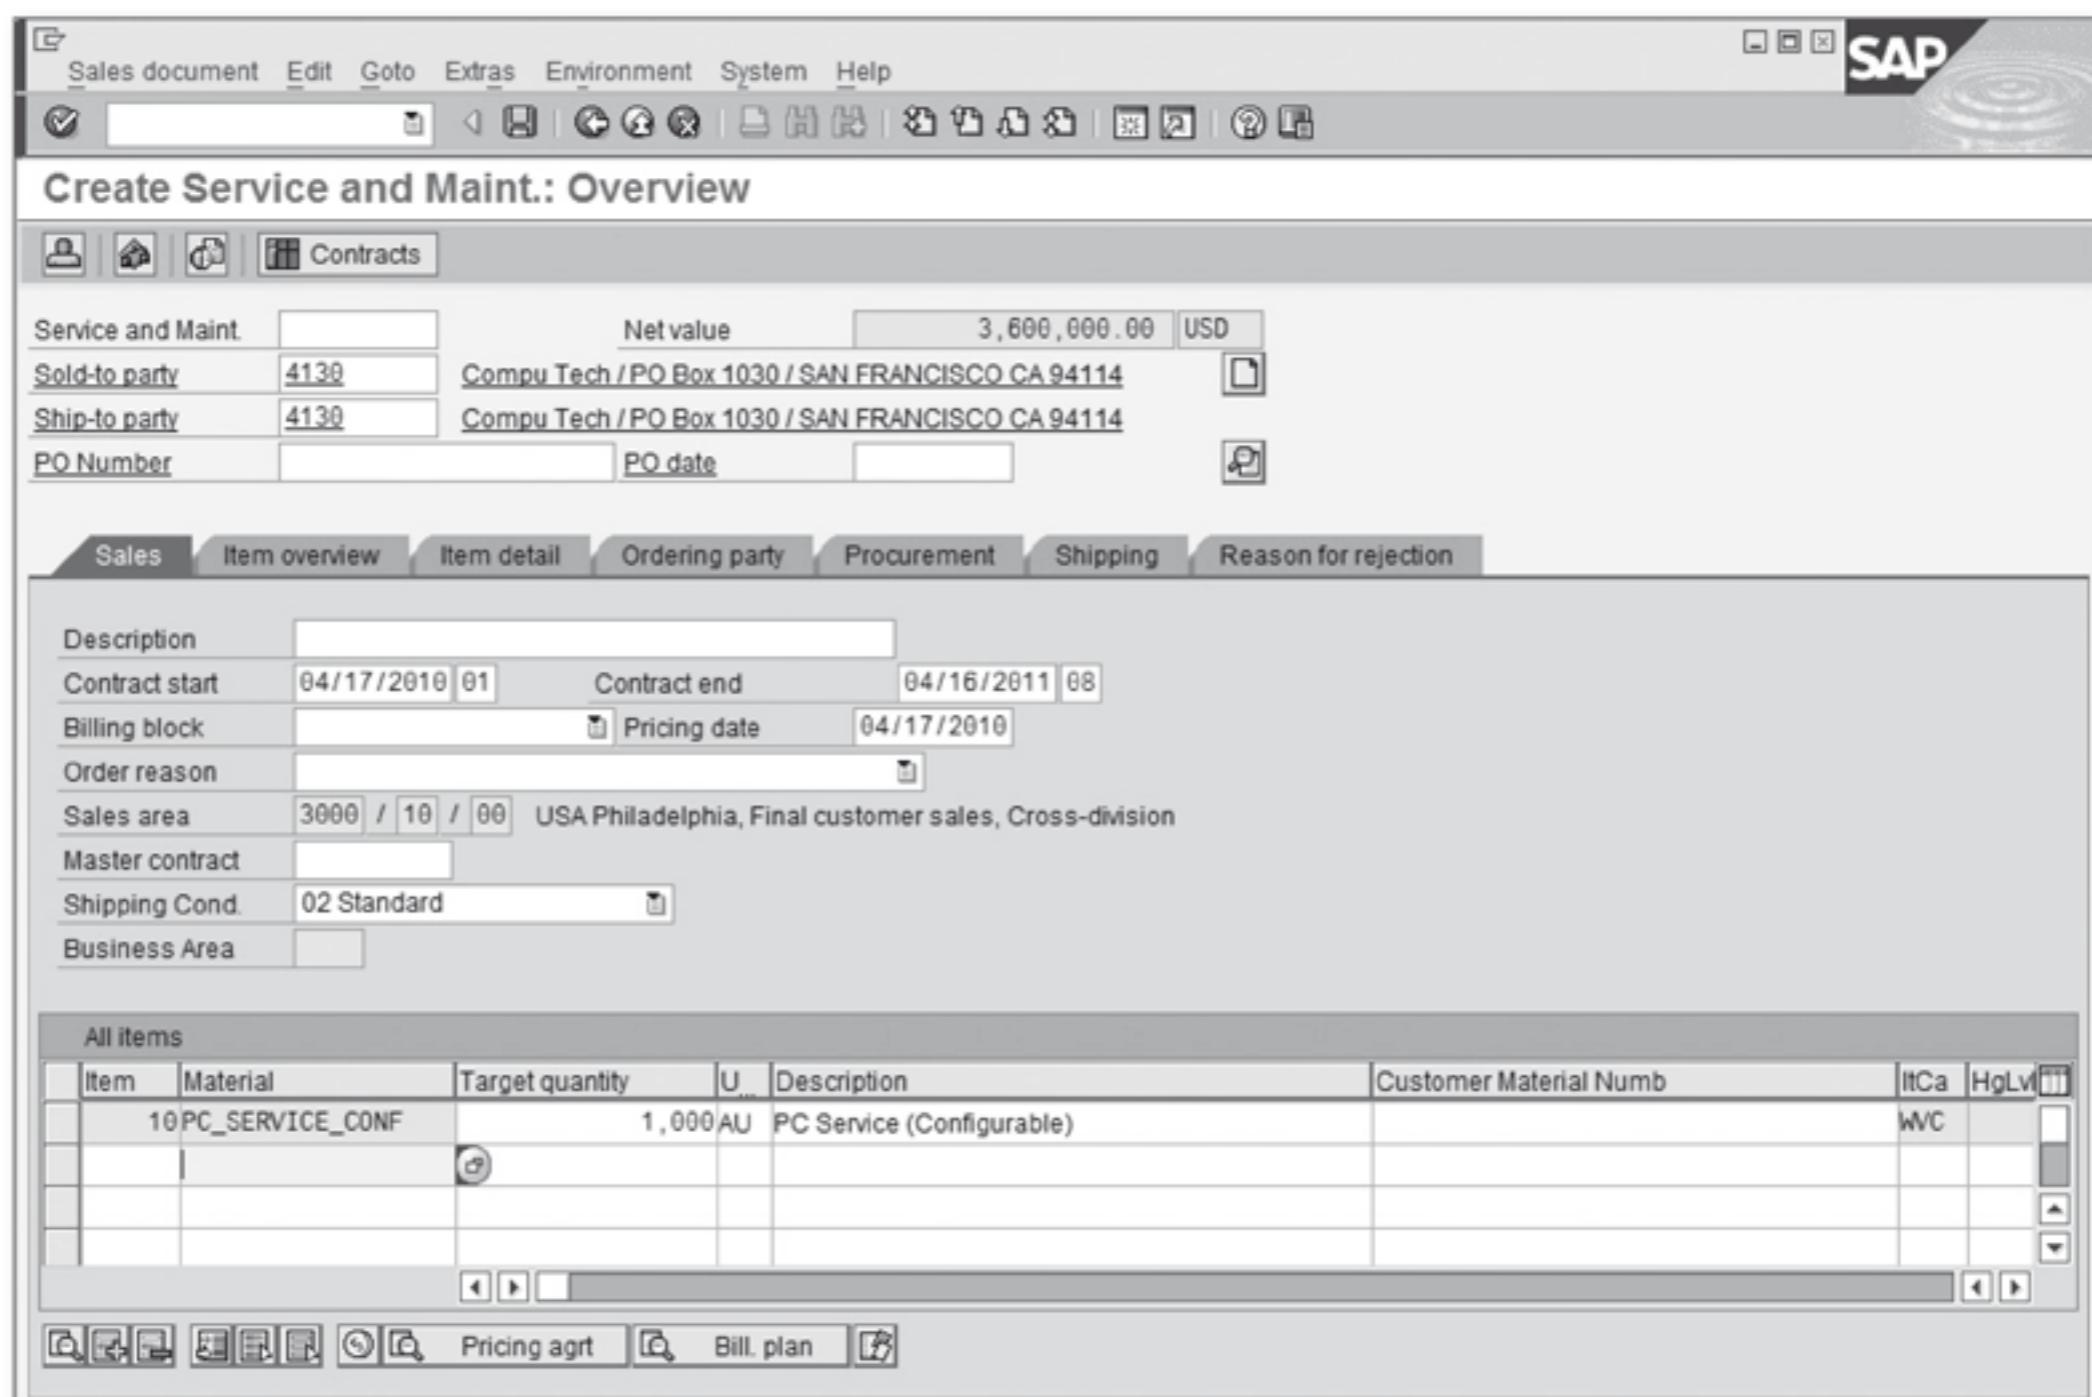

Figure 5.32 Create Service and Maintenance Contract Overview
4. To access the billing plan details, click on the Bill Plan icon located on the bottom of the contract item screen (see Figure 5.32). You can also access this section by choosing GOTO • ITEM • BILLING PLAN.